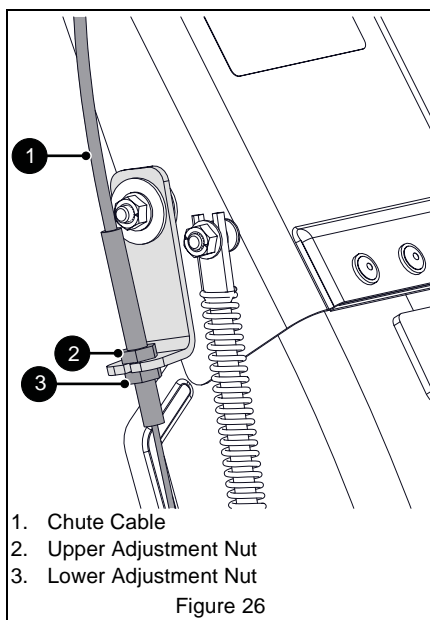

Figure 26
2. Adjust nuts on chute cable. See Figure 26.